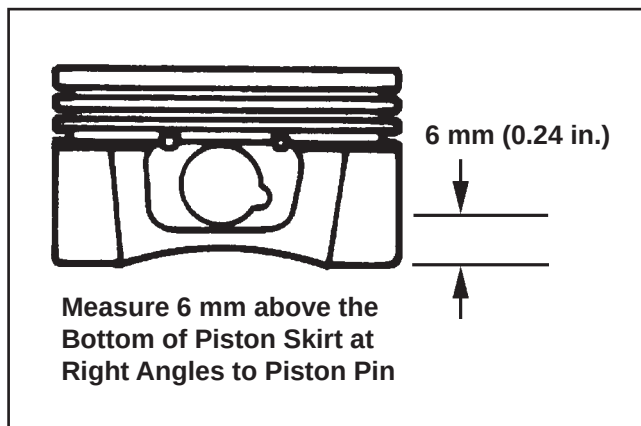

Figure 9-2. Measuring Piston Diameter.
1. Use a micrometer and measure the diameter of the piston **6 mm (0.24 in.)** above the bottom of the piston skirt and perpendicular to the piston pin (See Figure 9-2).